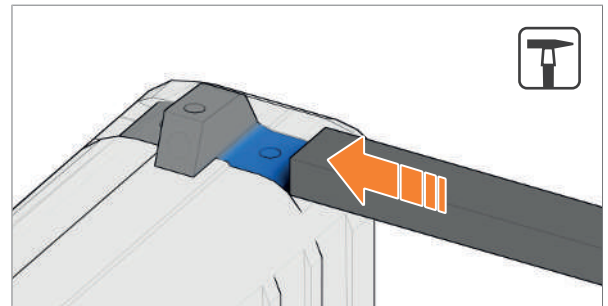

Fig. 37: Remove front sight
3. Remove front sight with tool (*Fig. 37*).